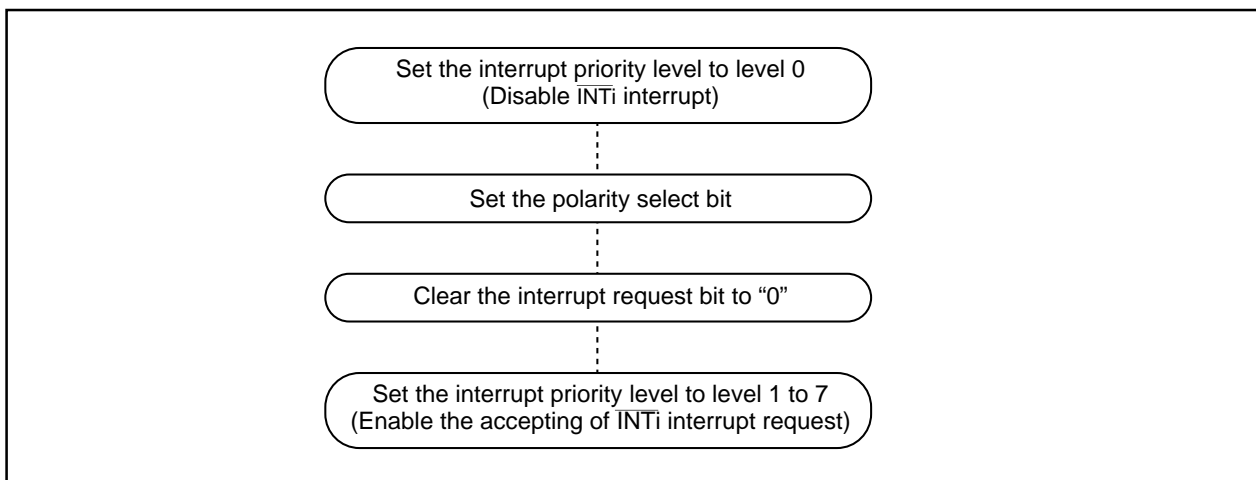

Figure 1.31.2. Switching condition of $\overline{\text{INT}}$ interrupt request
- When the polarity of the $\overline{\text{INT}}_0$ to $\overline{\text{INT}}_5$ pins is changed, the interrupt request bit is sometimes set to "1". After changing the polarity, set the interrupt request bit to "0". Figure 1.31.2 shows the procedure for changing the $\overline{\text{INT}}$ interrupt generate factor.